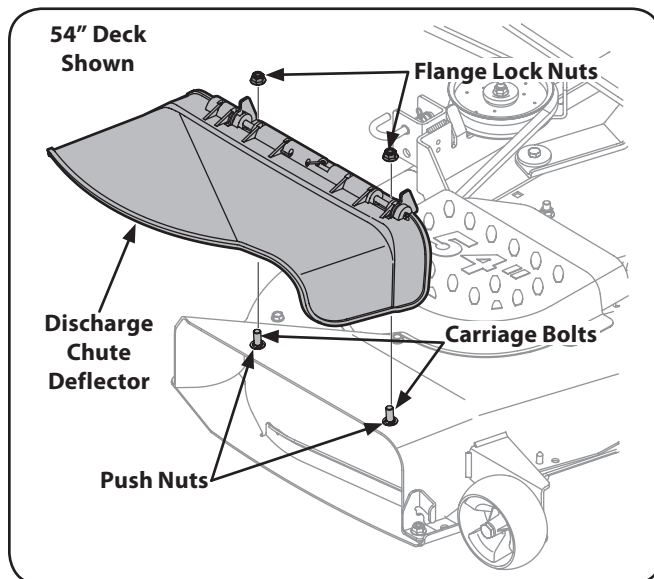

Figure 3-7
3. Install the discharge chute deflector using the carriage bolts, push nuts and flange lock nuts as shown in Figure 3-7 and securely tighten the hardware.